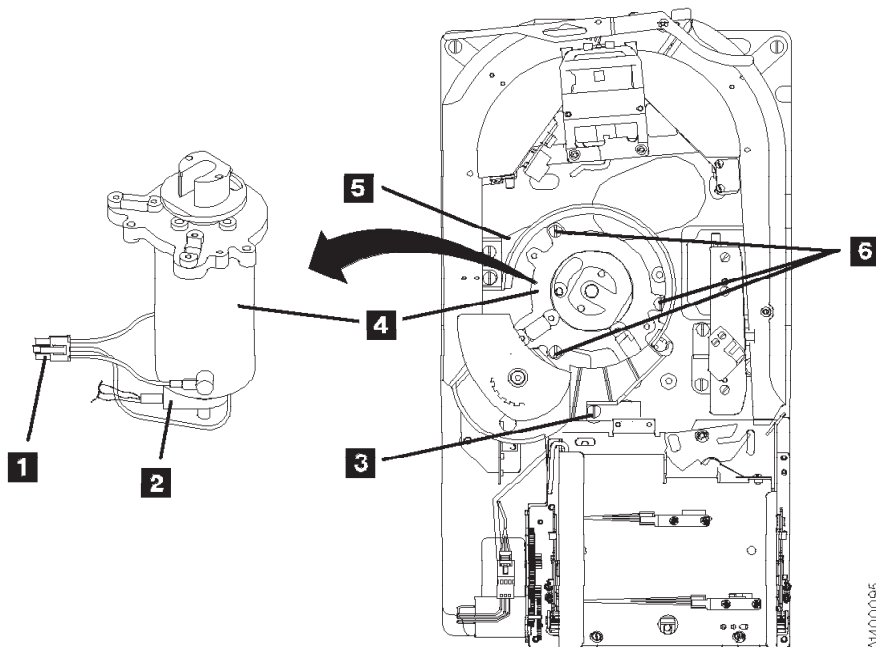

Figure 10-64. Machine Reel Motor
5. See Figure 10-64. Remove the center-tape-guide mounting screw **3** and remove the guide.